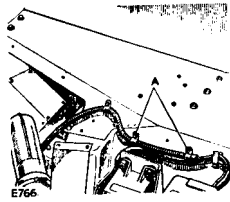

Fig. 113. Cable clips for aerial co-axial leads
- (2) Release the last two cable clips (Fig. 113), each secured by a screw and captive nut. Replace the screws to seal the holes.
- (3) Unscrew the two screws (Fig. 113) located in the holes leading to the ATU. Captive nuts are fitted to the underside of these holes.